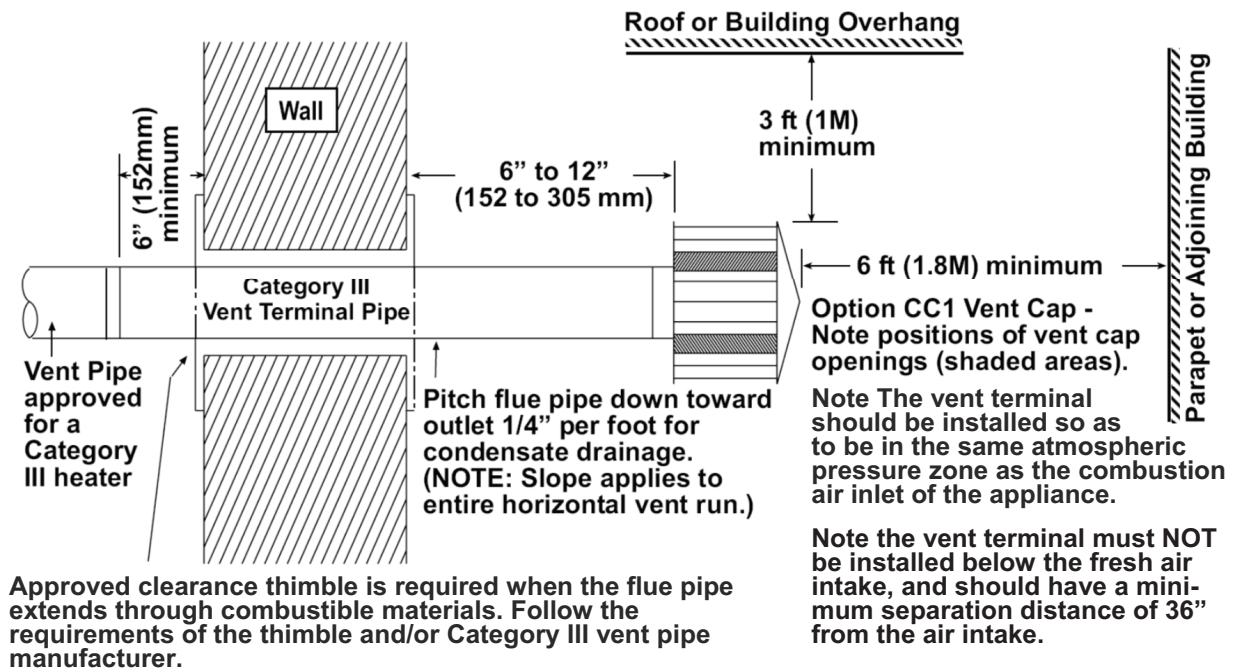

Figure 20. Horizontal Vent
- Individual units may be vented horizontally (see **Figure 20**) through side walls and terminated with an approved terminal. An approved clearance thimble is required when the flue pipe passes through combustible materials. Follow the requirements of the thimble manufacturer.